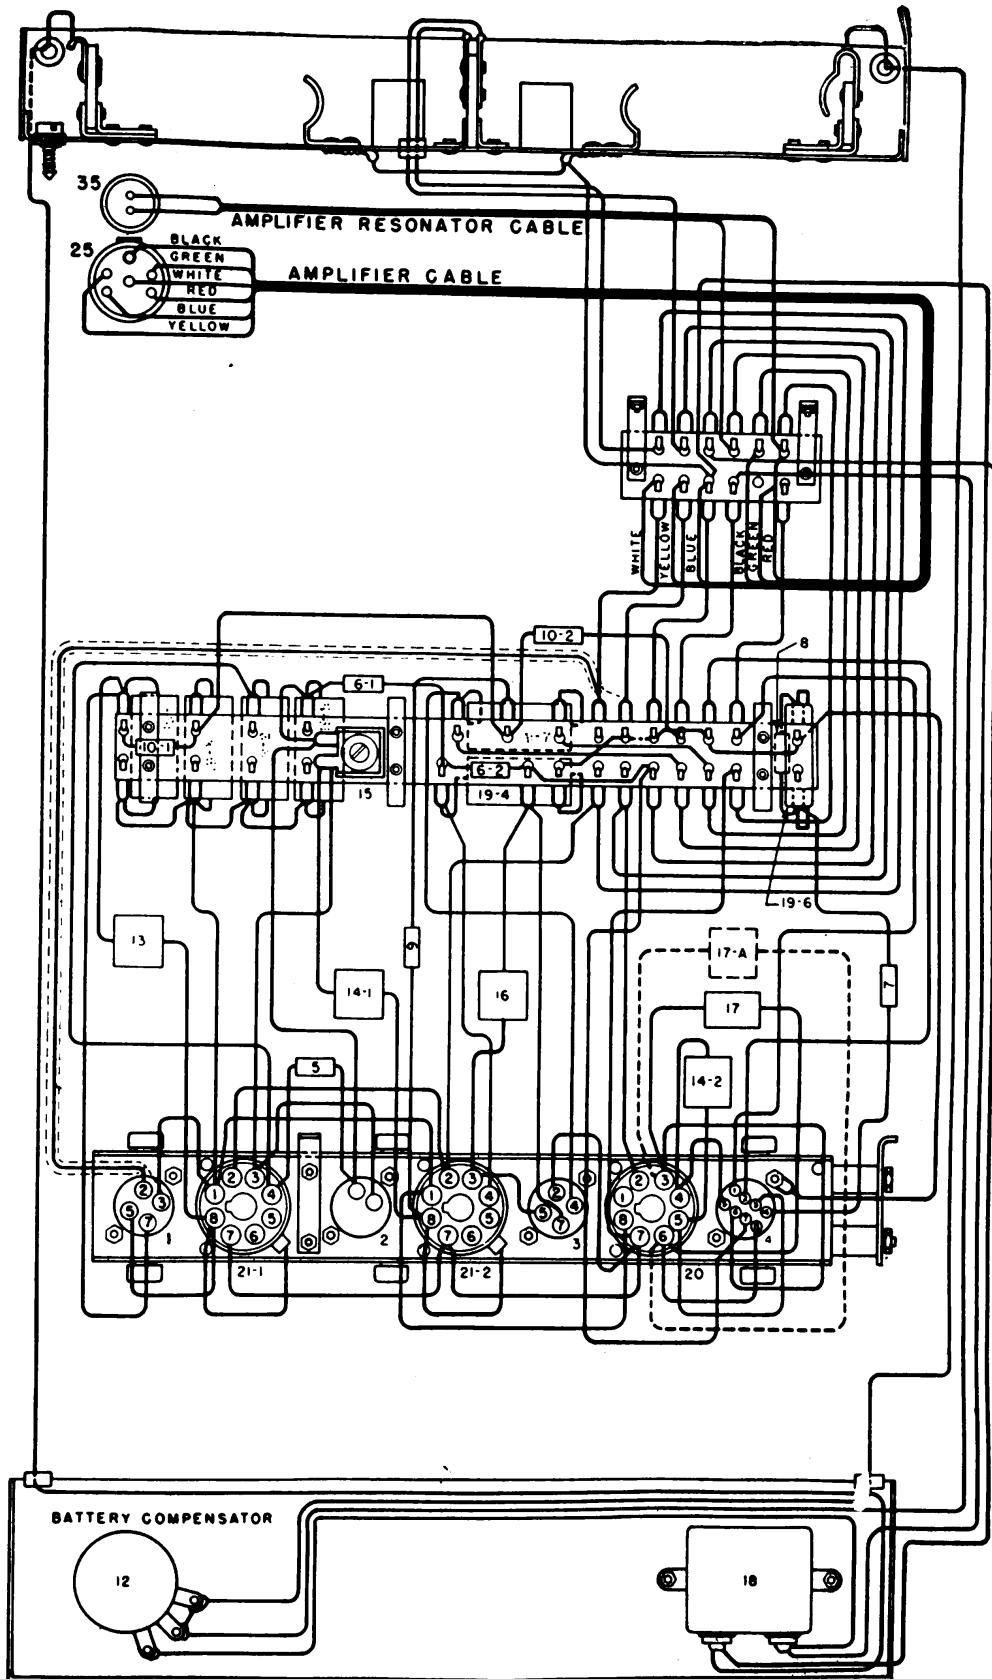

Fig. 17 Detector Set SCR-625-(*), Wiring Diagram
e. To replace amplifier transformer.—(1) Unscrew the locking screw (79) on the front panel.
(2) Lift the panel out of box by means of the knob above the locking screw.
(3) Remove the screws fastening terminal strip 58.
(4) Unsolder the leads from terminal strip 59 to terminal strip 58.
(5) Remove the nuts holding the rubber mounts between the chassis and the panel.
(6) Slide the amplifier chassis free of the panel.
(7) Unsolder the leads going to the defective transformer.
(8) Remove the two screws holding the transformer.
(9) Install the new transformer in the same position.
(10) Solder the wires back on the terminals as shown in the wiring diagram (fig. 17).
(11) Slide the chassis back in place on the panel.
(12) Replace nuts on the rubber mounts.
(13) Resolder the leads from the terminal strip according to the wiring diagram. (fig. 17).
(14) Replace the two screws and nuts holding the terminal strip.